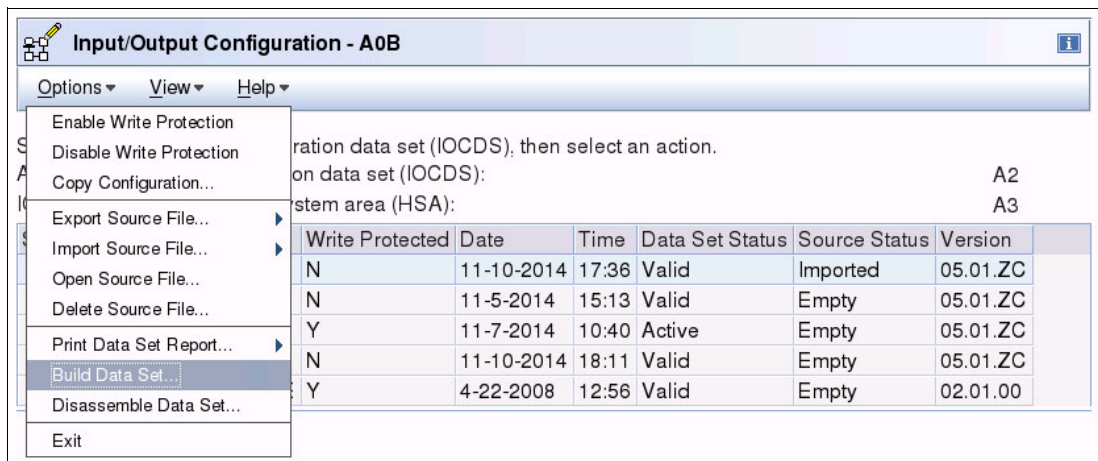

Figure 7-88 HMC - SAIOCP: building the IOCDs
15. Click **Options** → **Build Data Set** (Figure 7-88).